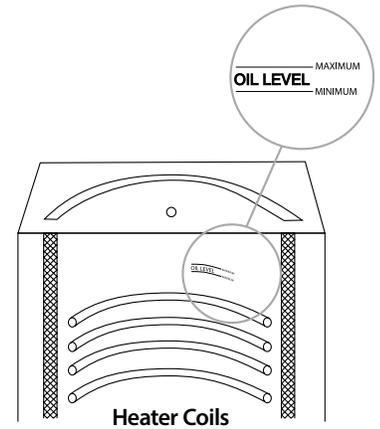

FIGURE 4
5. **Add Cooking Oil** - Liquid or solid cooking oil may be used. Melt solidified cooking oils in tender or other means and pump into fryer. Add enough cooking oil to raise liquid to within one inch of Minimum oil level line (see Figure 4, page 12). As oil heats, it expands. Check level again once oil has heated to verify that level is between Minimum and Maximum marks.
! DANGER: Do not turn on power unless all heater coils are completely covered by cooking oil. Fill shortening to a level between the Maximum and Minimum oil level lines found on the inside of the cookpot (see Figure 4).
16. Oil Level - Add or remove cooking oil so that it is at a level between the Maximum and Minimum Level marks. (Figure 4).